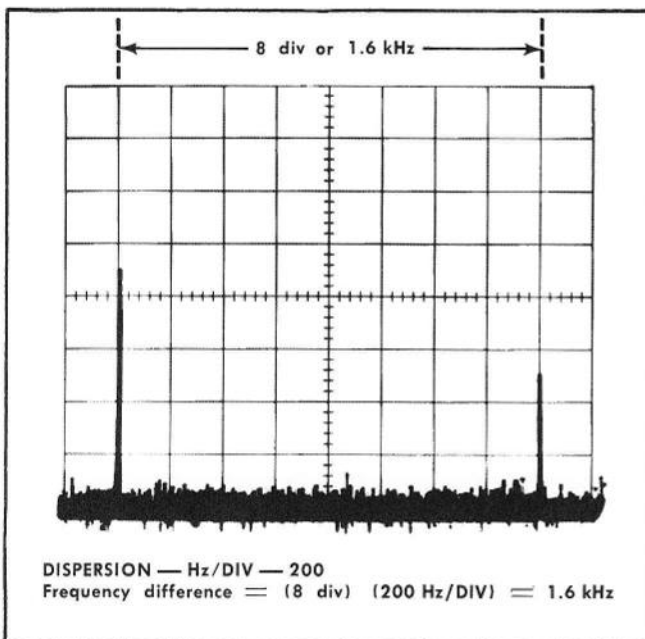

Fig. 2-10. Frequency difference measurement between two signals.
An approximate frequency measurement can be made by noting the difference in frequency between the graticule center and the signal position (Fig. 2-10), then add or subtract the noted difference to the CENTER FREQUENCY dial reading. (Signals to the right of screen center are above the CENTER FREQUENCY dial reading.)
3. Measure the distance, in graticule divisions, between the two signals (see Fig. 2-10).